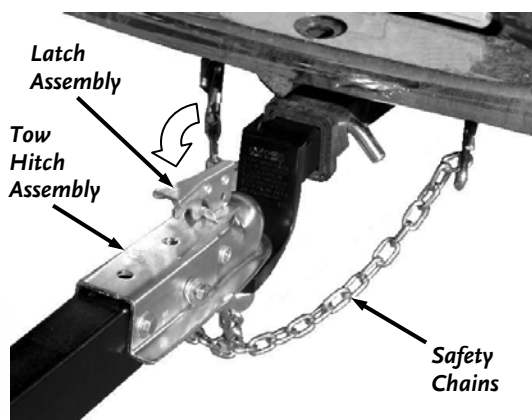

Figure 70
2. Close the Latch Assembly on the Tow Hitch Assembly to lock it onto the Tow Ball (**Figure 70**). Attach the towing Safety Chains to the tow vehicle ensuring there is enough slack for turning.